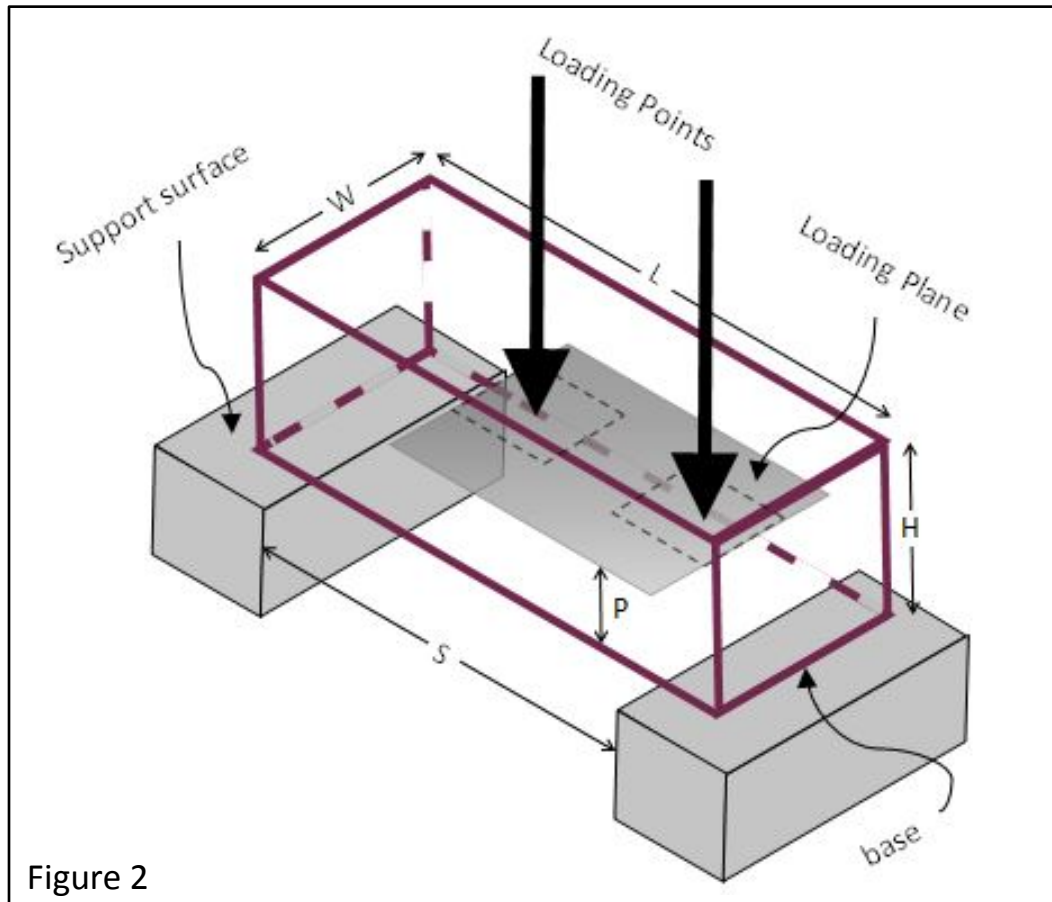

Figure 2
- b. The bridge must span a gap (**S**) of 300 mm (**hint: bridge must be longer than 300 mm**), be no longer (**L**) than 400 mm, be no taller (**H**) than 150 mm above the support surface, and no wider (**W**) than 80 mm. No part of the bridge may extend below the support surface (**see Figure 2**).